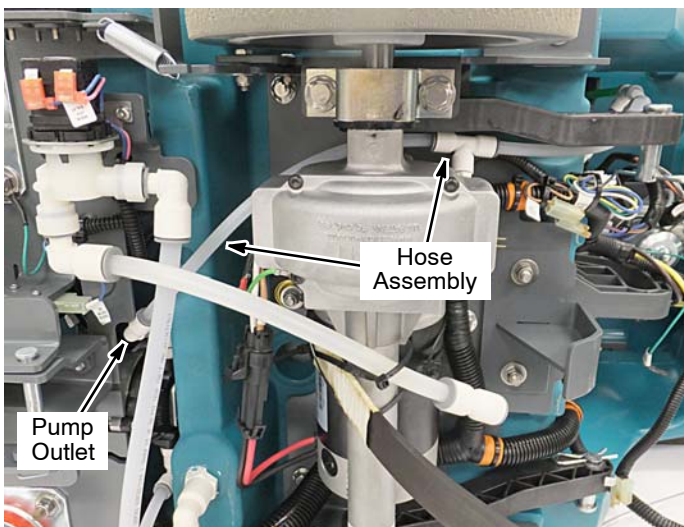

Fig. 32
- Connect the hose assembly to the pump outlet fitting and route the hose assembly behind the transaxle towards the ec-H2O module as shown (Figure 32 and 33).